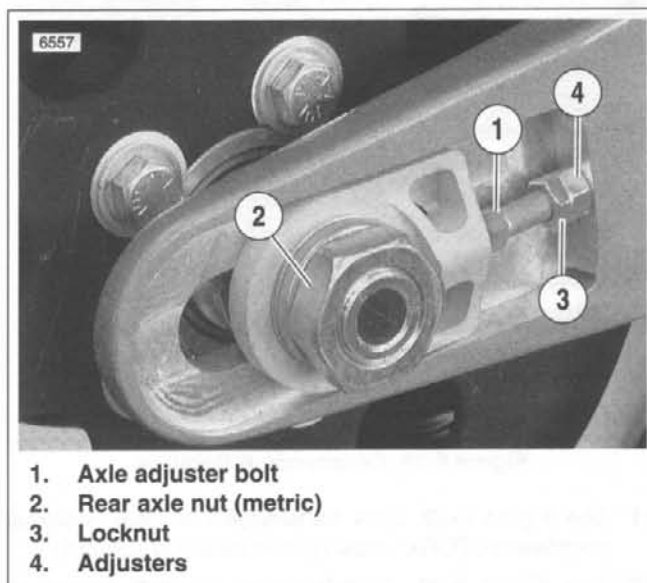
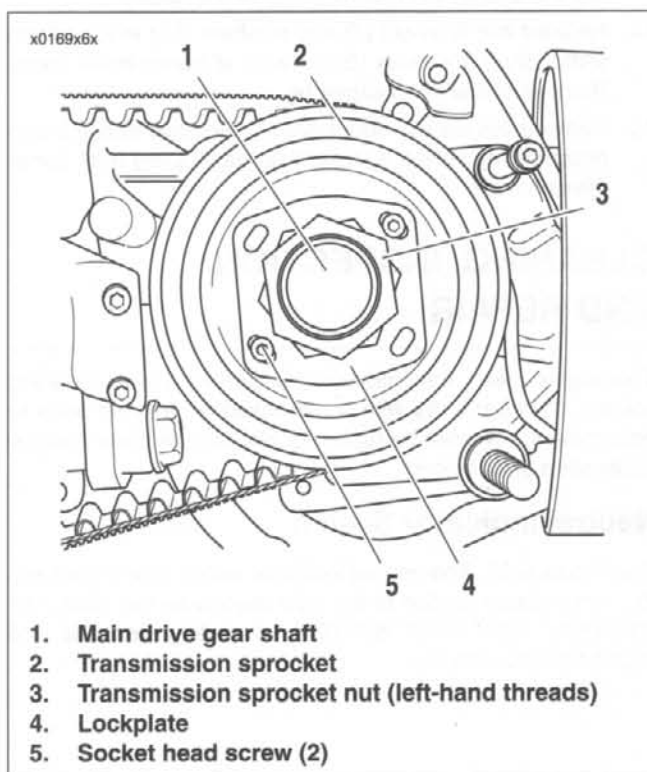

Figure 6-27. Rear Axle Assembly
Figure 6-28. Transmission Sprocket
5. See Figure 6-27. Move rear wheel forward.
- a. Loosen rear axle nut (2) (metric).
- b. Hold axle adjuster bolt (1) with a 5/16 in. wrench. Loosen locknut (3).
- c. Turn adjusters (4) on each side of swingarm an equal number of turns counterclockwise.
6. See Figure 6-28. Place transmission in first gear. Remove two socket head screws (5) and lockplate (4).